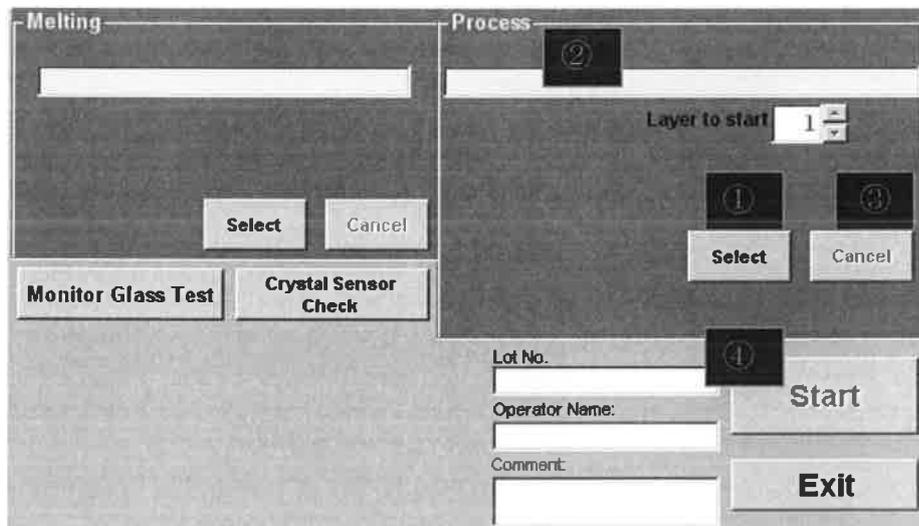

Fig. 42 Evaporation Process - Start
1. Select Evaporation Process File. (① of Fig. 42)
2. Press Start button(④ of Fig. 42).
Name of the selected Evaporation Process File is displayed at ② of Fig. 42. Double-click part ② will lead to edition of Evaporation Process File.